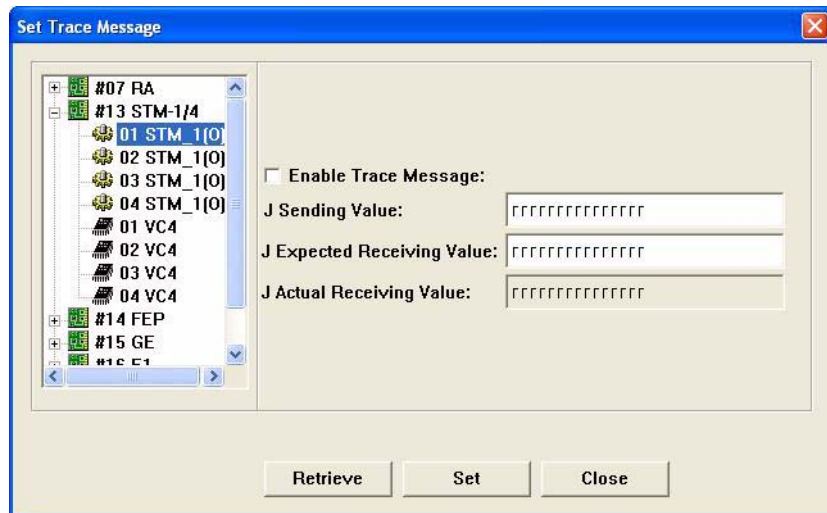

Fig. 4-4-32 Set Trace Message Dialog Box
- 2 From the main menu on the ADM Management Tool, select **Set Trace Message** from the **Configuration** menu. The **Set Trace Message** dialog box shown in *Fig. 4-4-32* appears: